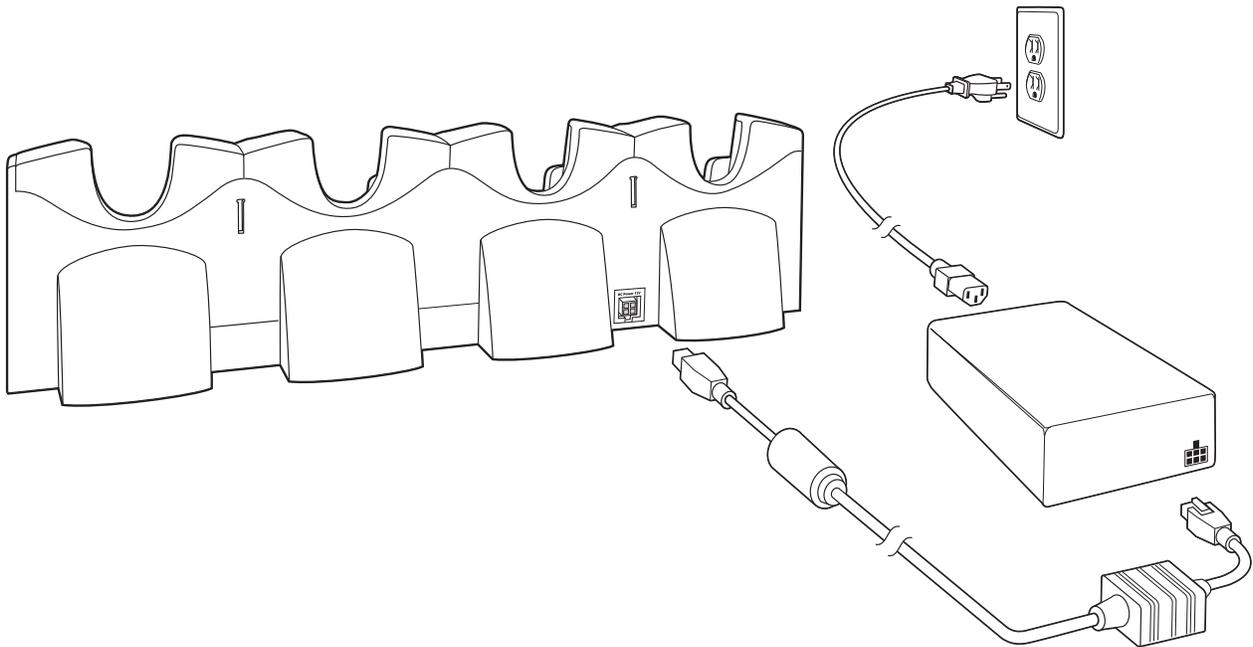

Figure 2-10 Four Slot Charge Only Cradle Connection
5. Connect power (see Figure 2-10 on page 2-10). The power supply should be located in the power supply well.